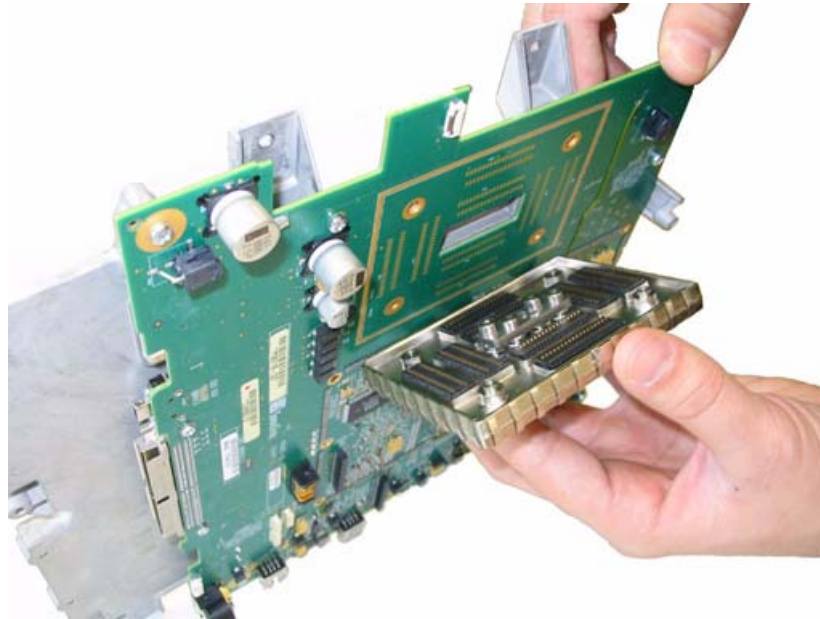

Figure 4.24 Installing Nest Frame
- 4 Rotate the Superplug Assembly on edge as shown in Figure 4.24. This allows the Nest Frame Assembly to be mated to the Main PCBA without the Nest Frame interposers falling out.